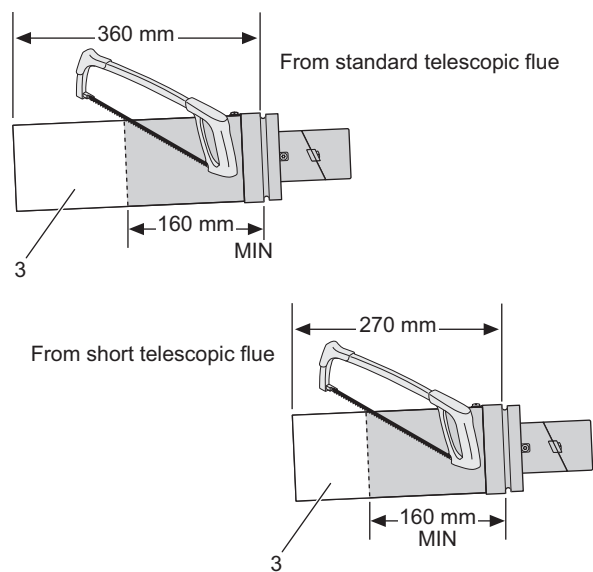

Fig. 12 Reducing the flue further
- ▶ Mark the length required for the terminal as shown in figure 12 (min. 160mm) and cut square, taking care not to damage the tubes.